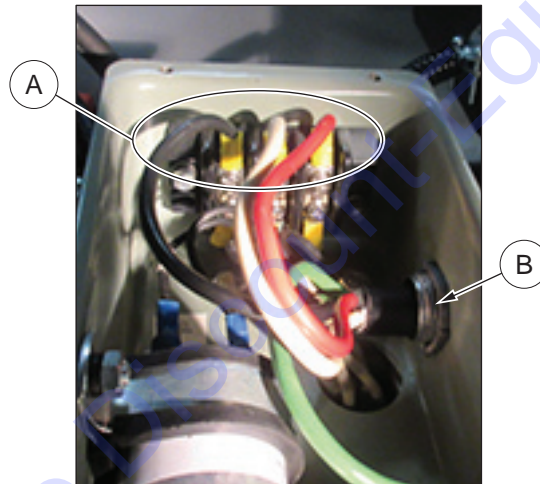

Figure 11 - Generator Box Wires and Strain Relief
- b. See Figure 11.
7. See Figure 11. Connect generator box wires, routed into generator box in step 6, to generator box terminals, in the following order.